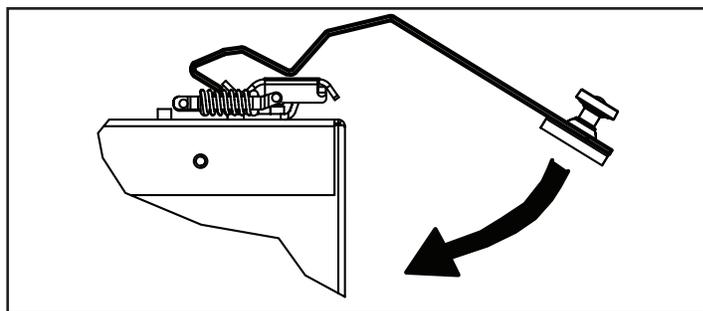

Figure 32 - Latch Opener
3. Hook opener over latch as shown in Figure 32. Swing the bottom of the opener down toward the door. You will not need to pull down.